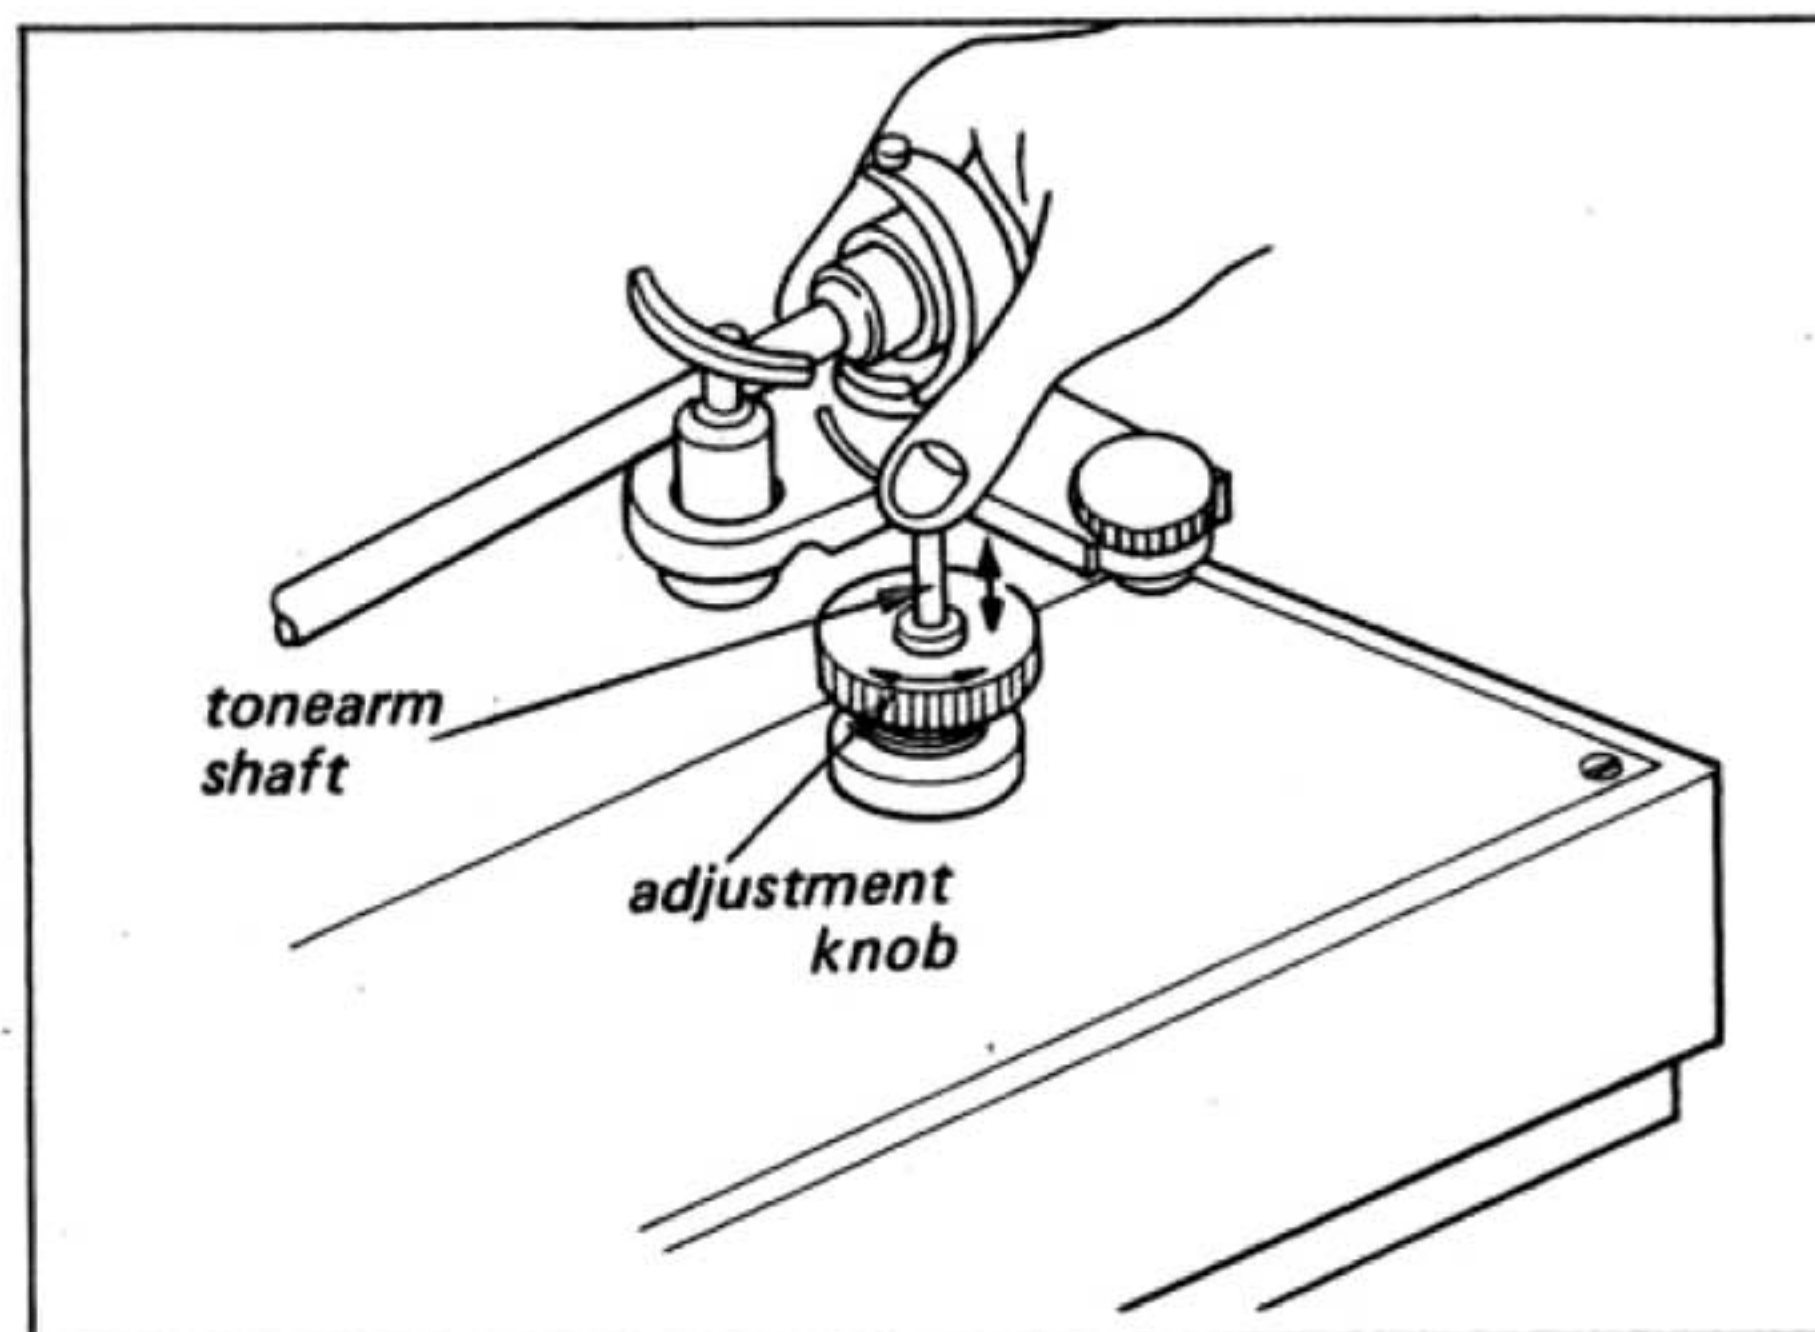

Fig. 3-2. Tonearm height adjustment
1. Loosen the tonearm height adjustment knob by turning it counterclockwise as shown in Fig. 3-2.
2. Tonearm height can be adjusted by simply pulling up or down the tonearm shaft as shown in Fig. 3-2.